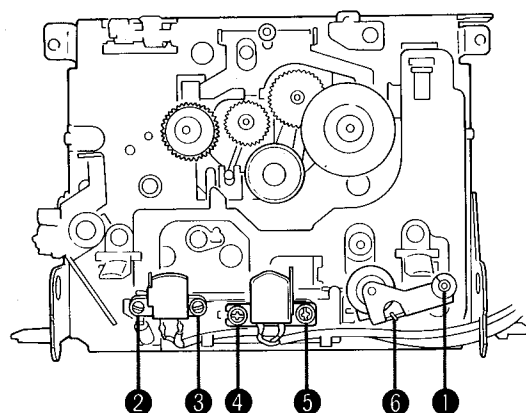

Fig. 12
2. Remove the lock washer ① in Fig. 12 and remove the actuator of pinch roller spring ⑥ in Fig. 12 and then pull out the pinch roller.
3. Remove the screws ② and ③ in Fig. 12 and then remove the erase head.
4. Remove the screws ④ and ⑤ in Fig. 12 and then remove the record/playback head.
- * Be careful not to lose the spring which are attached to the screws ② and ④ in Fig. 12.